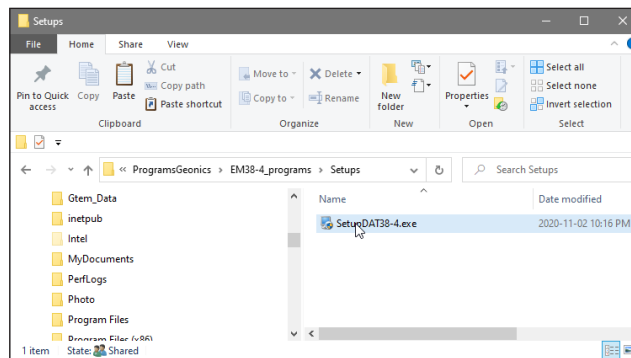

Figure 1.1 Starting setup program
1. Use Windows Explorer to locate the SetupDAT38-4.exe file in the USB/CD folder or the download location (Figure 1.1). Double-click the file to launch the setup program.